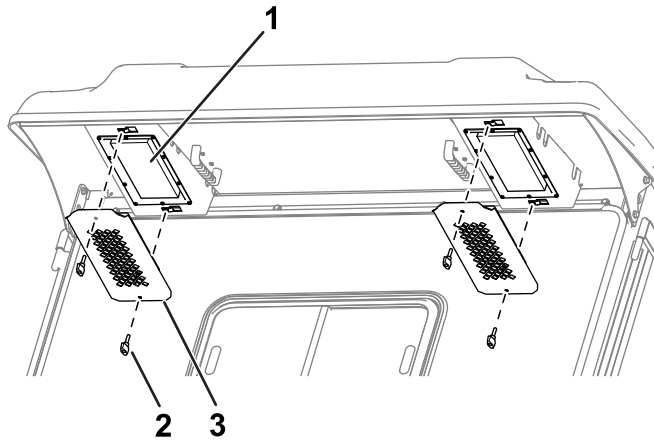

Figure 116
1. Remove the knobs and grates from the cab rear overhang (Figure 116).
4. Use the knobs and grates to install the filters into the cab (Figure 116).